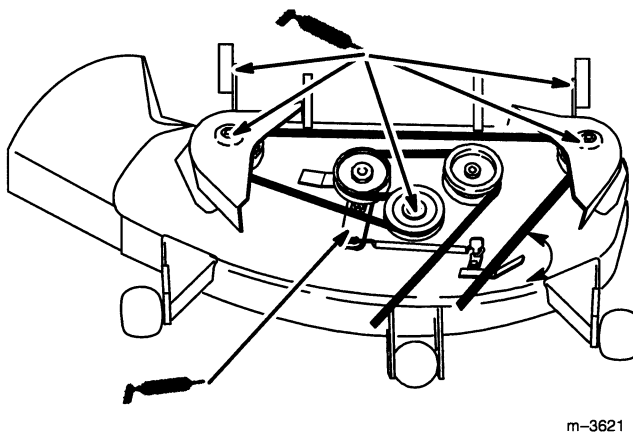

Figure 27
1. Lubricate the blade spindles, idler arm and gage wheel bearings (Fig. 27).